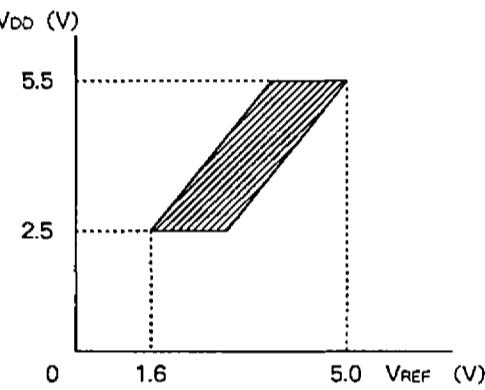

Fig. 5 Power supply voltage detection reset function chart
The graph in Fig. 5 shows the relationship between the power supply voltage V_{dd} and reference voltage V_{REF} of the power supply voltage detection reset function.
- Note 1)** The graph in Fig. 5 serves as guide to the function operation area obtained using average devices.